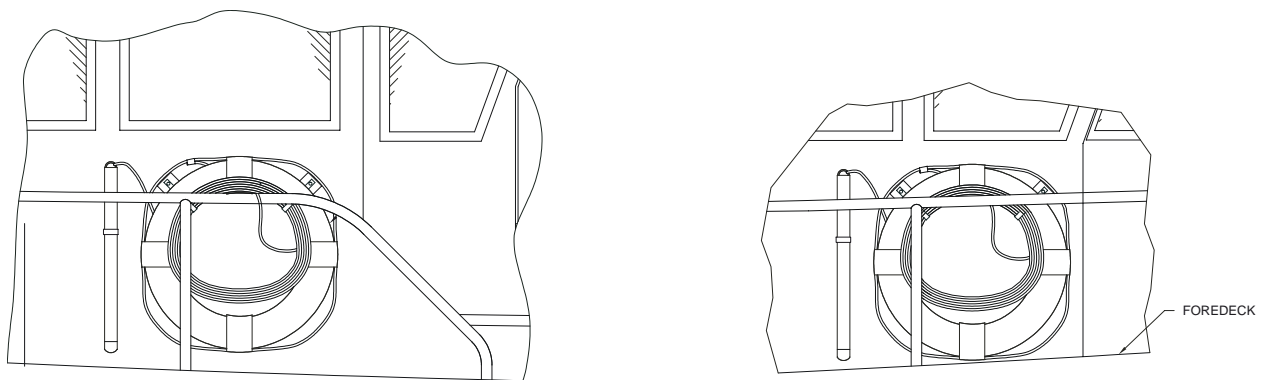

Figure 2-19
E.9. Location Two life rings are installed on aluminum brackets on the port and starboard exterior sides of the pilothouse. (See figure 2-19.)